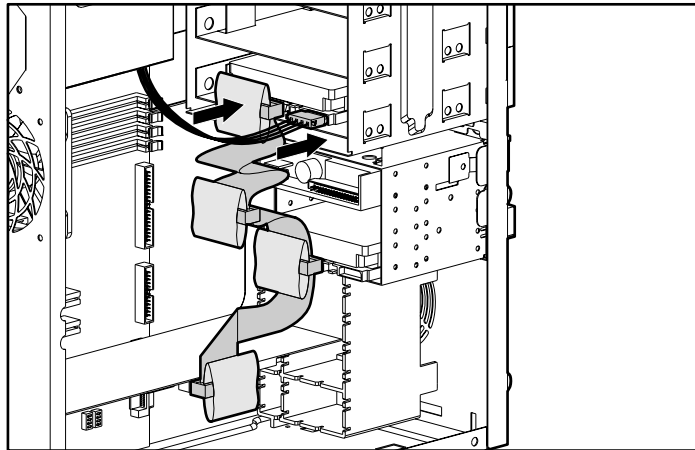

Figure 3-14. Connecting the drive cables (ProLiant ML330 server)
- Connect the data and power cables to the back of the device, as shown in Figure 3-14.
4. Connect the data and power cables to the back of the drive, as shown in Figure 3-14.